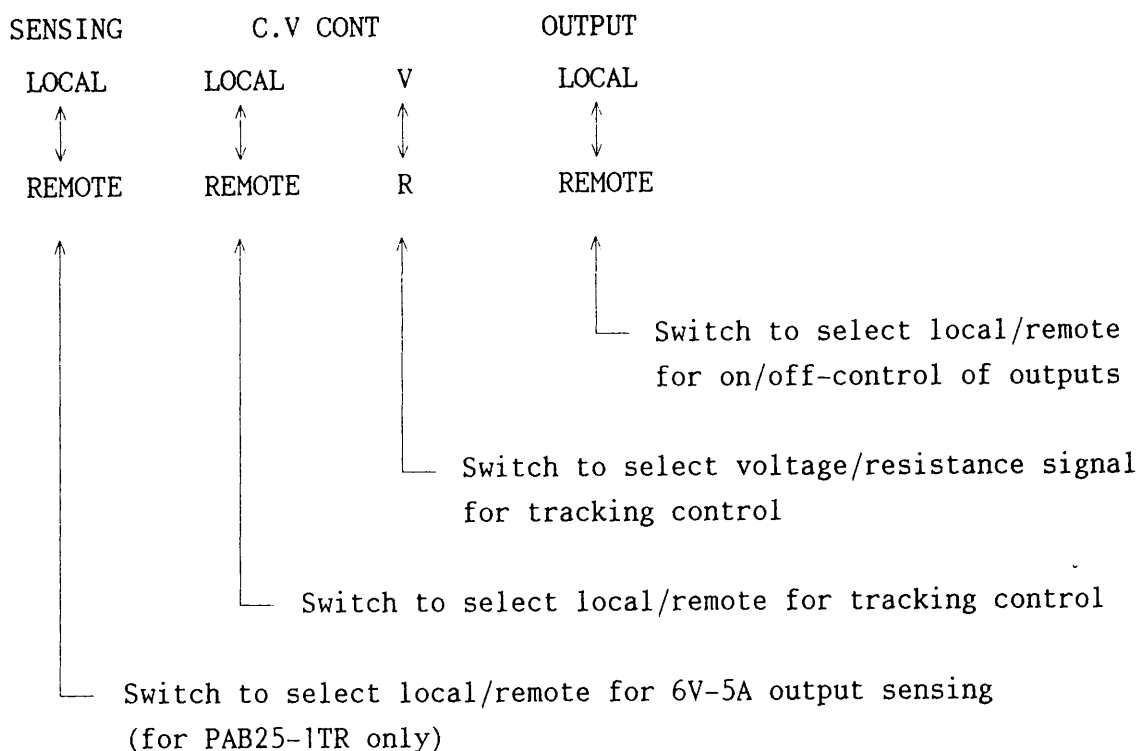

Figure 2-15. Remote Control Selector Switches on Top Panel
- (1) Turn off the POWER switch.
- (2) Connect a contact signal between rear terminals 5 and 6.
- (3) Set the OUTPUT LOCAL/REMOTE switch (see Figure 2-15) to REMOTE. (As you this, the OUTPUT switch on the front panel is disabled.)
- (4) Turn on the POWER switch. Now the output can be ON/OFF-controlled with the contact signal (ON when the contact is made and OFF when broken.)
- (5) Set the C.V CONT LOCAL/REMOTE switch to REMOTE and the V/R switch to V. (See Figure 2-15.)
- (6) Now, as you vary the voltage signal, both "+" and "-" output voltages will vary simultaneously.